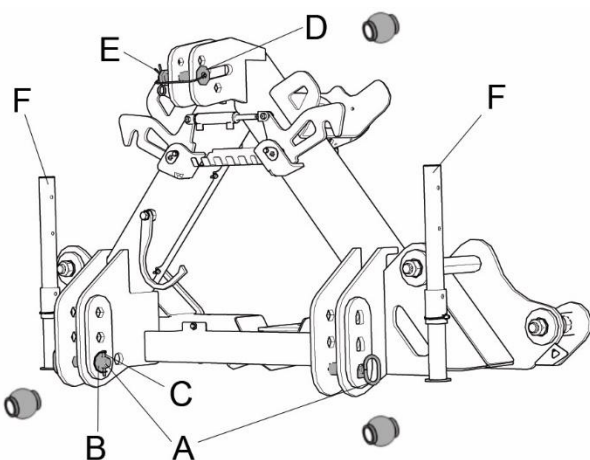

Figure 8: Connecting the machine
- Insert the two bolts A and secure them with washers B and locking pins C (Figure 8).